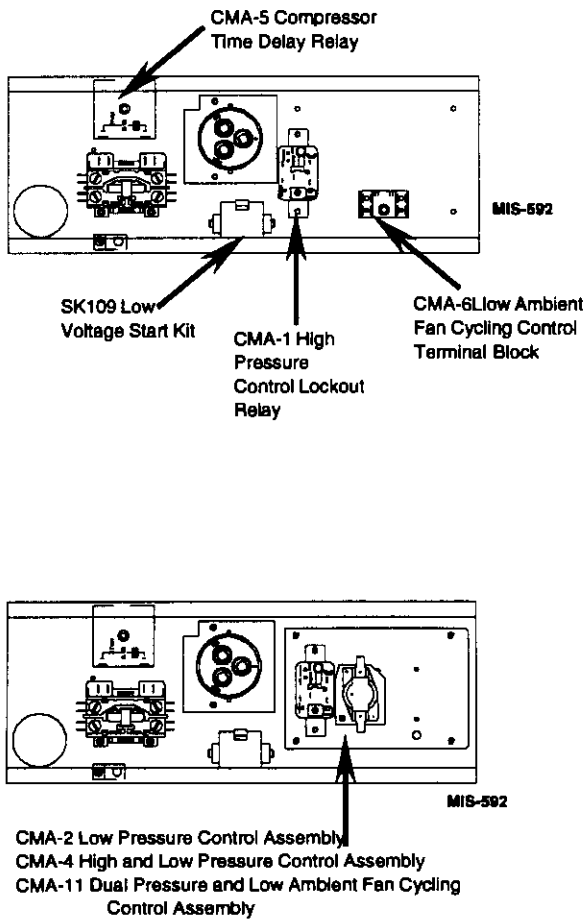
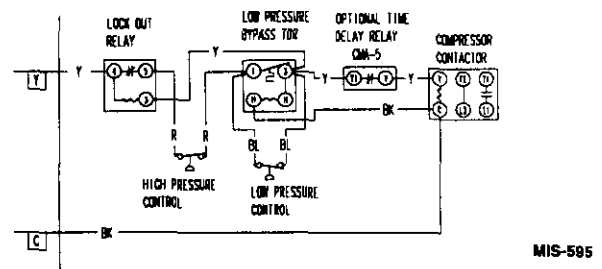
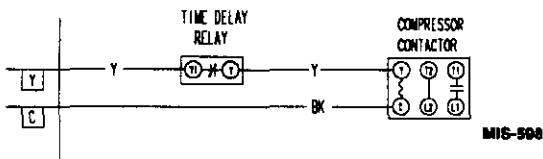
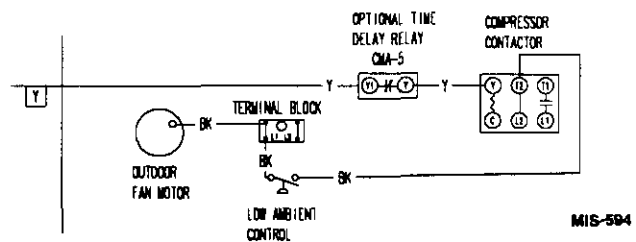

Figure 5 — Component Mounting Location
**Figure 7 — Installation Instructions for CMA-2 Low Pressure Control**
**Figure 8 — Installation Instructions for CMA-4 High and Low Pressure Control**
**Figure 9 — Installation Instructions for CMA-5 Compressor Time Delay Relay**
- Step 1.** Mount lockout relay in position shown in Figure 5.
- Step 2.** Disconnect yellow low voltage (Y) wire at compressor contactor coil or (Y1) at optional CMA-5 and reconnect to terminal #4 of the lockout relay.
- Step 3.** Connect yellow wire from terminal #3 of the lockout relay to the (Y) terminal of the compressor contactor coil or (Y1) at optional CMA-5. This is the terminal that the wire was removed from in Step 2.
- Step 4.** Route high (red) pressure switch wires up through the bushing in the bottom of the control panel. Connect the high pressure switch wires between terminal #5 of the lockout relay and the (Y) terminal of the compressor contactor coil or (Y1) at optional CMA-5.
- ep 1.** Snap control assembly into control panel as shown in Figure 5.
- Step 3.** Connect yellow wire from terminal #3 of the low pressure bypass TDR to the (Y) terminal of the compressor contactor coil or (Y1) at optional CMA-5. This is the terminal that the wire was removed from in Step 2.
- Step 4.** Connect the black wire from terminal H of the low pressure bypass TDR to the common (C) side of the compressor contactor coil.
- Step 7.** Recheck wiring. See Figure 7. Check for proper operation of the unit by energizing in heating or cooling mode for at least 5 minutes. The unit should not go into lockout.
- Step 1.** Snap control assembly into control panel as shown in Figure 5.
- Step 8.** Recheck wiring. Refer to Figure 8. Check for proper operation of the unit by energizing in heating or cooling mode for at least 5 minutes. The unit should not go into lockout.
- Step 1.** Mount compressor TDR in position shown in Figure 5 with screw provided.
- Step 2.** Disconnect yellow low voltage (Y) wire at the compressor contactor coil and reconnect to the Y1 or #3 terminal of the TDR.
- Step 3.** Connect yellow wire from terminal (Y) of the TDR to the (Y) terminal of the compressor contactor coil. This is the terminal that the wire was removed from in Step 2.
- Step 4.** Recheck wiring. Refer to Figure 9. Energize unit. Compressor should start. Remove power and reapply. Compressor should not start until the 5 minute time delay has expired.
- Step 1.** Mount terminal block in position shown in Figure 5.
- Step 1. Snap control assembly into control panel as shown in Figure 5.
- Step 2. Disconnect yellow low voltage (Y) wire at compressor contactor coil or (Y1) at optional CMA-5 and reconnect to terminal #4 of the lockout relay.
- Step 3. Connect the black wire from terminal H of the low pressure bypass TDR to the common (C) side of the compressor contactor coil.
- Step 4. Connect yellow wire from terminal #1 or (Y) of the low pressure bypass relay to the (Y) terminal of the compressor contactor coil or (Y1) at optional CMA-5. This is the terminal that the wire was removed from in Step 2.